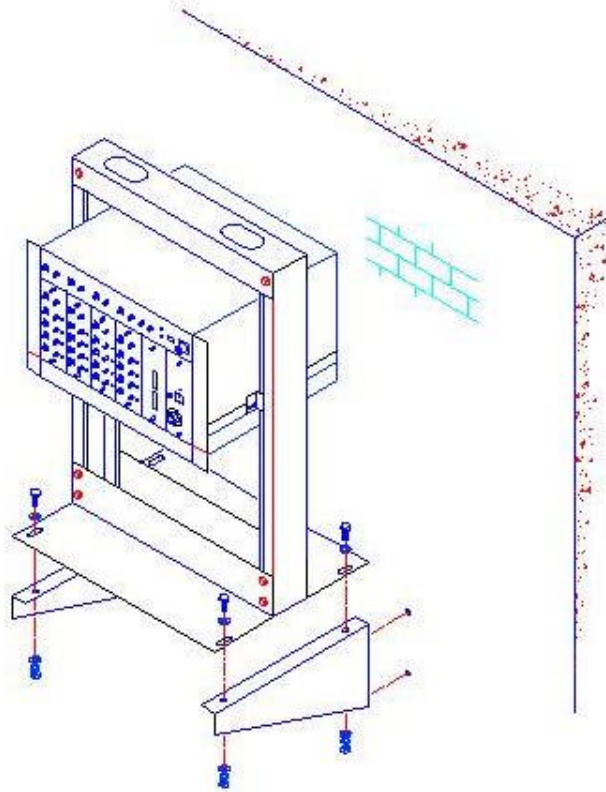

Figure 3.1-5 Master Unit Installation Schematic Diagram (B)
- 1 For the convenience of marking the fixing holes on wall, first assemble a baseplate and two wall support as shown in the Repeating End Installation Schematic Diagram (B) (figure 3.1-5) to form the baseplate-wall support component. The baseplate should be removed from the well-assembled portable frame.